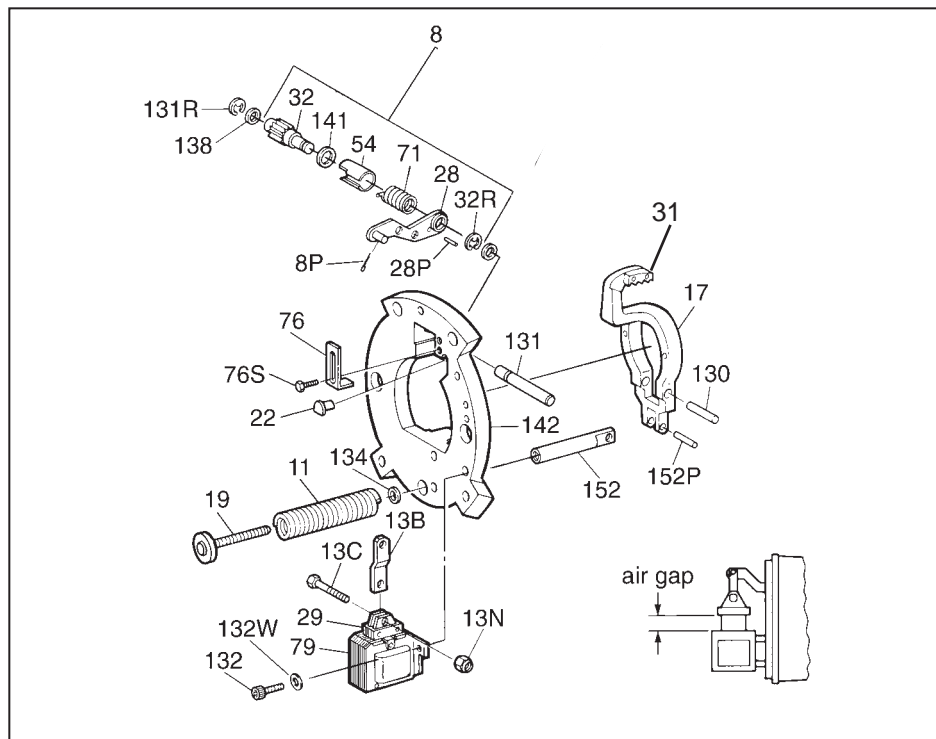

Figure 6
D. Self-adjust maintenance (see Figure 6)